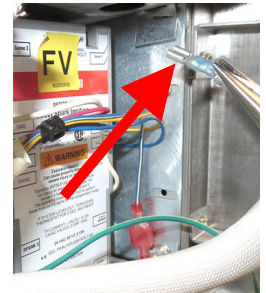

Figure 5
8. Carefully disconnect the white flame sense wire from the module (see Figure 5).